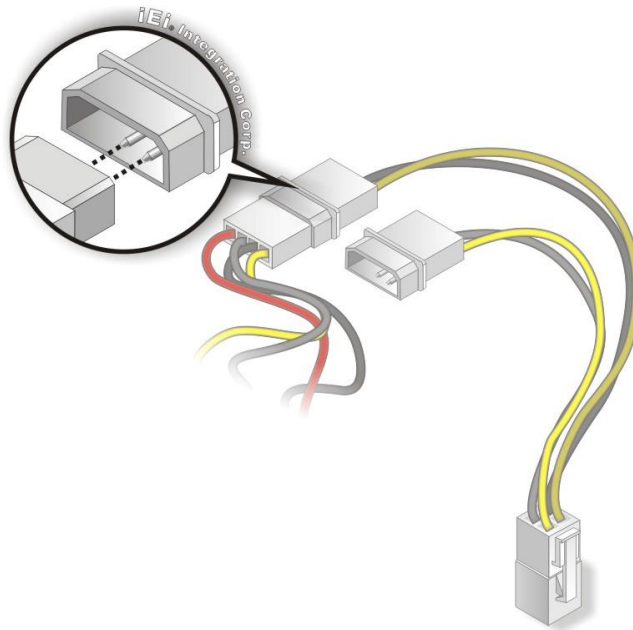

Figure 4-11: Connect Power Cable to Power Supply
Step 3: Connect power cable to power supply. Connect one of the 4-pin (1x4) Molex type power cable connectors to an AT power supply. See **Figure 4-11**